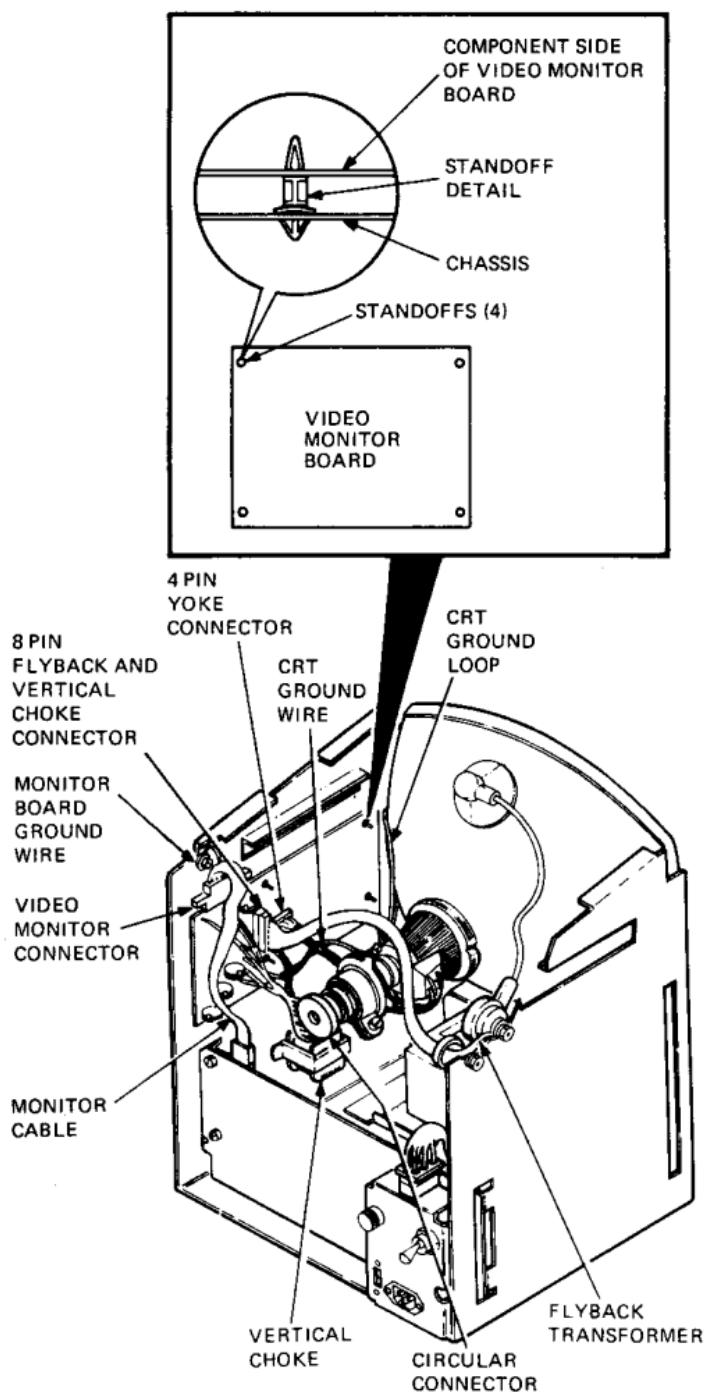

Figure 2-14 Video Monitor Board Connections
Refer to Figure 2-14 for the following steps.
8. Release the four standoffs by pressing in the standoff locking tabs and pulling the board out. (See Figure 2-14 insert.)
2. Disconnect the 8-pin flyback transformer and vertical choke connector from the video monitor board (Figure 2-14).
This procedure exposes you to the CRT anode which may contain a stored high voltage. All grounds must be intact or the CRT will not discharge (Figure 2-14). These grounds are
6. Remove the two nuts holding the flyback transformer to the monitor chassis (Figure 2-14). Carefully remove the flyback transformer with the nylon insulation washers.